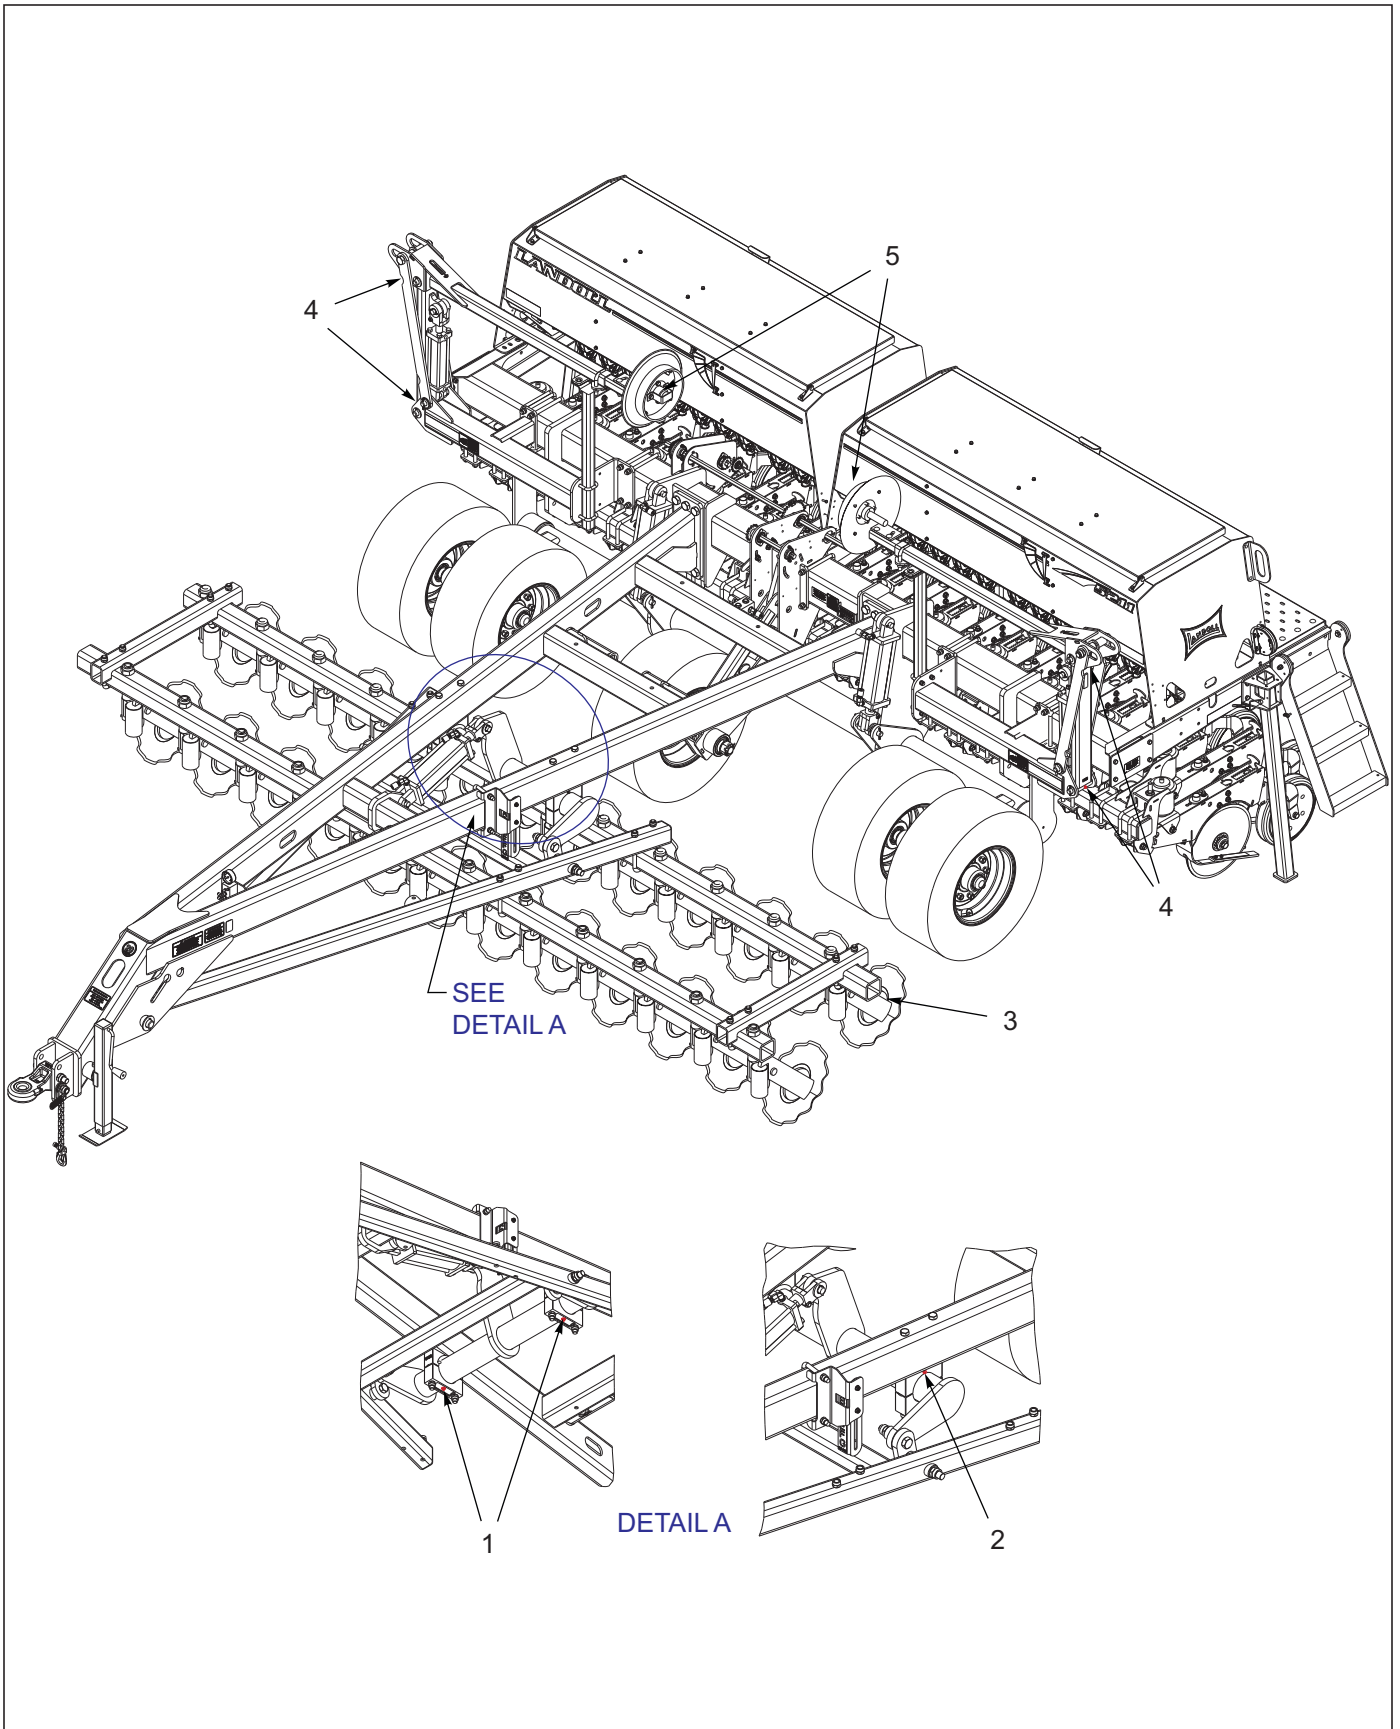

Figure 5-7: Lubrication Points
1. **Table 5-1** specifies the lubrication points and intervals on the 5211 Grain Drill. Proper maintenance of your machine will, under normal operating conditions, help to keep it operating at or near its peak performance for an extended period of time. Proper maintenance is also a condition of keeping your warranty in good status **See Figure 5-7**.